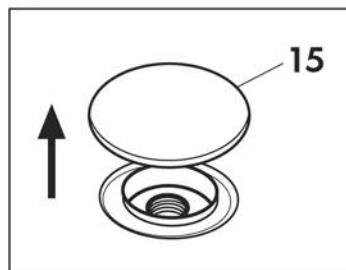

Fig. 4
Pour water, preferably demineralised water, or non-foamy detergents into the appropriate tank after lifting the cap (15) **(Fig. 4)**
Pour tap water or non-foamy detergents into the appropriate tank after lifting the cap (15) **(Fig. 4)**